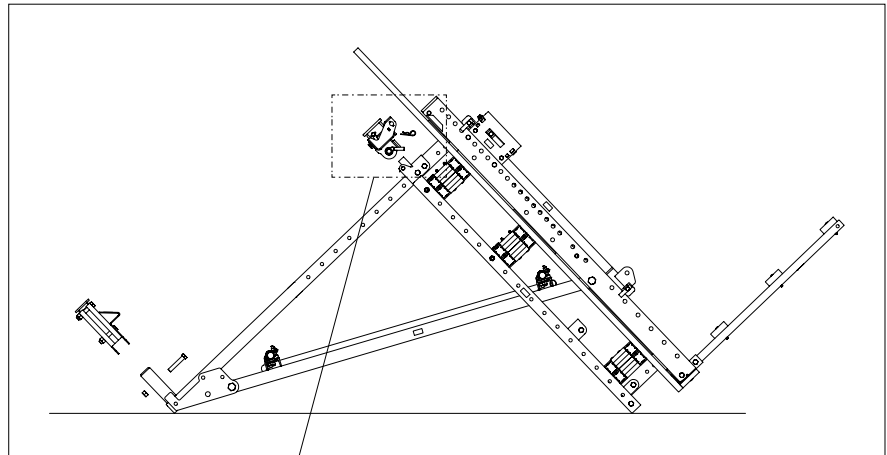

Fig. C1.02
1. Remove locking pins (1.3) from the Crossbeam Unit (1).
2. Mount Angle Adapter (108) from below in the Crossbeam Unit. In the process, insert the sleeve of the Angle Adapter behind the head plate (1.10) of the Crossbeam Unit (1).
5. Turn down the hand grip of the locking pin behind the securing plate (1.11) of the Crossbeam Unit. (Fig. C1.02)